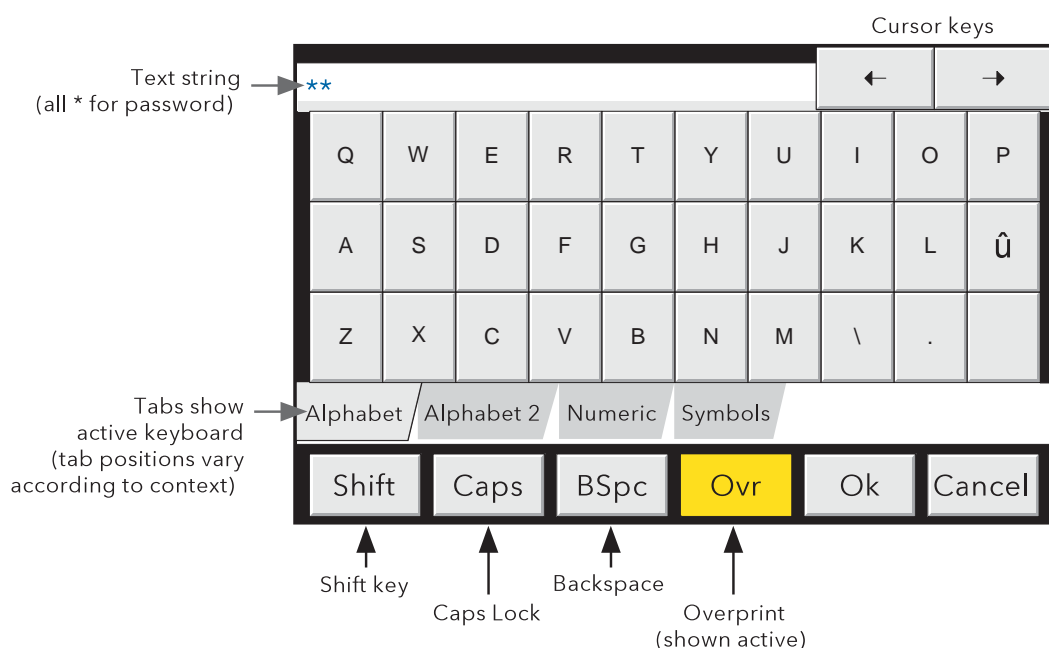

Figure 3.3.1b Alphabet 1 keyboard
- 3 Touch the blank Password area to call the keyboard display (see figure 3.3.1b).
①
The keyboard which appears when the password area is touched is the same as that which appears when any non-numeric text string entry is required (e.g. channel descriptor). Figures 3.3.1b and 3.3.1c below are an attempt, within the limitations of the illustrating process, to depict the available keyboards and thus the available character set. Actual entry of the text string is by touching the relevant keys.